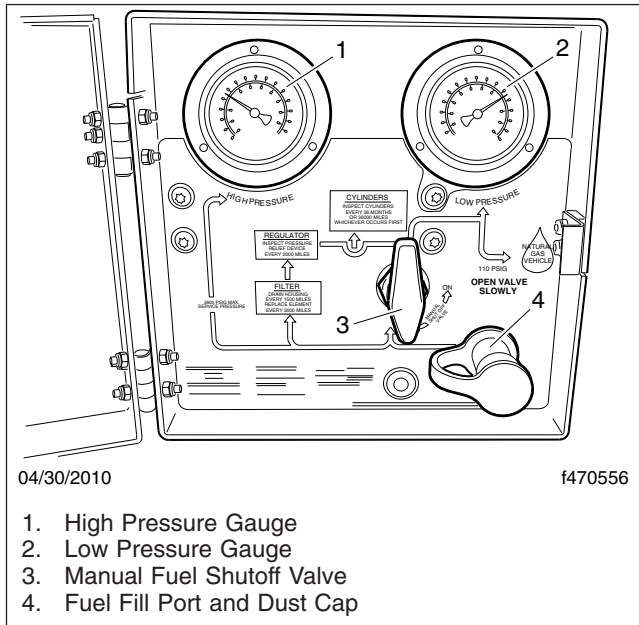

Fig. 12, CNG Fuel Panel
4. Inspect the fuel fill port for signs of damage or leaks. Ensure the port dust cover and the O-ring inside the port are both present and in good condition. See **Fig. 12**.